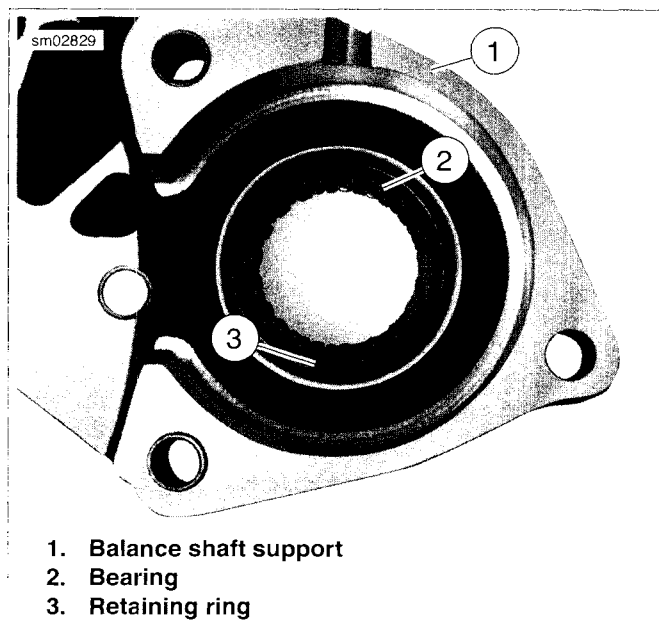
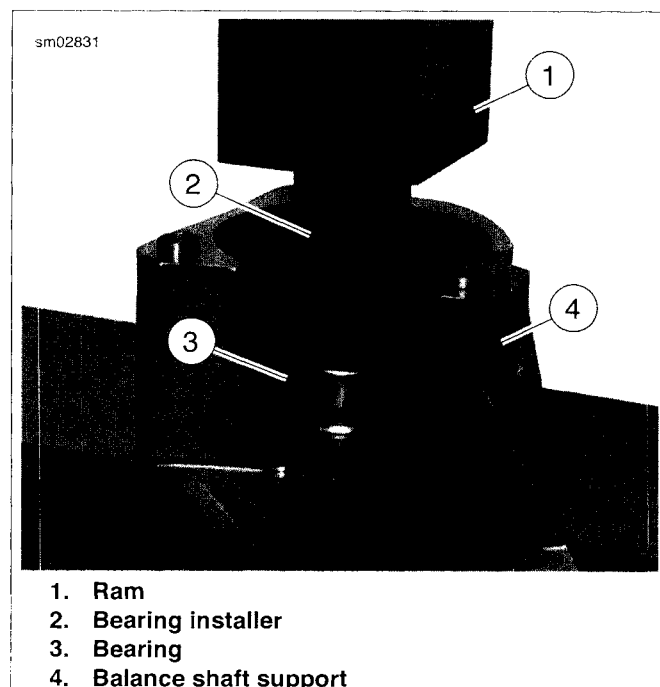

Figure 3-164. Balance Shaft Support Bearing
Figure 3-166. Installing Bearing in Shaft Support
2. See Figure 3-164. Remove retaining ring (3)
1. See Figure 3-166. Place balance shaft support (4) upside down on a suitable support.
2. Set bearing on housing with letters on bearing facing up. Place bearing installer end of BALANCE SHAFT SUPPORT BEARING REMOVER/INSTALLER (Part No. HD-48474) (2) over bearing (3).
3. Center installer under ram (1) of press. Slowly lower ram to seat bearing until it fits flush against support.
4. See Figure 3-164. Install a **new** retaining ring (3).